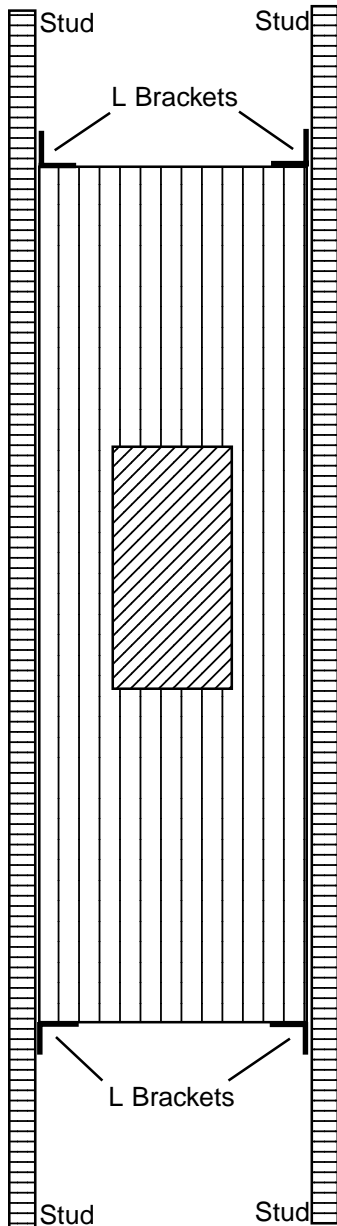

Fig. 1
4. Screw one leg of each L bracket to the top and bottom corners of the enclosure keeping the other "leg" flush with the side edges of the enclosure. Please see Fig. 1.